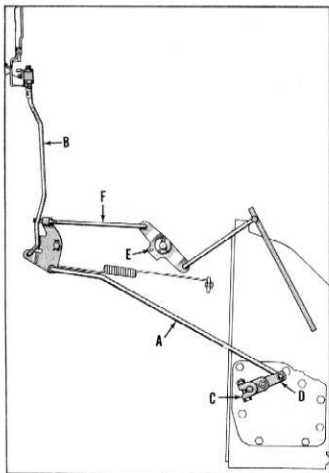

Fig. 148—Throttle Valve Linkage
2. Disconnect rod "A" (fig. 148) from throttle lever "D".
- With idle set as outlined in step 1 and rod "A" (fig. 148) forced back lightly against stop in transmission (closed throttle), adjust rod "B" for length required for free entry of swivel pin in throttle lever. Then, shorten by